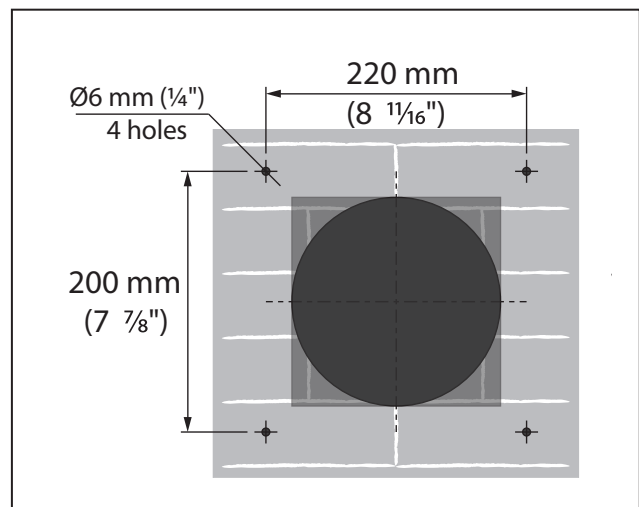

Fig. 12b.
- Fig. 12b - for VENTO Expert A50-1 S Pro model.